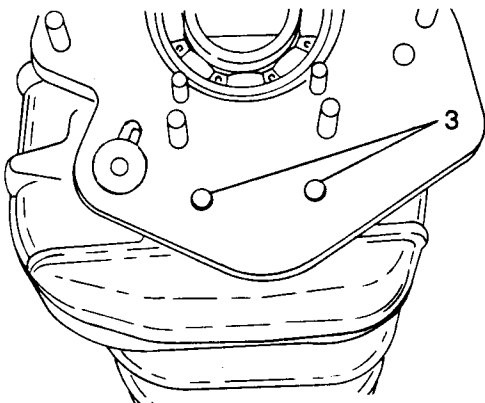

Fig H1.76
- (3) Refer to Fig H1.76. Remove the outer track of the layshaft rear bearing through the holes (3) that are for this in the casing.
- (4) Remove the clutch withdrawal mechanism (see Sub-sub-section H1.3, Chapter 5).